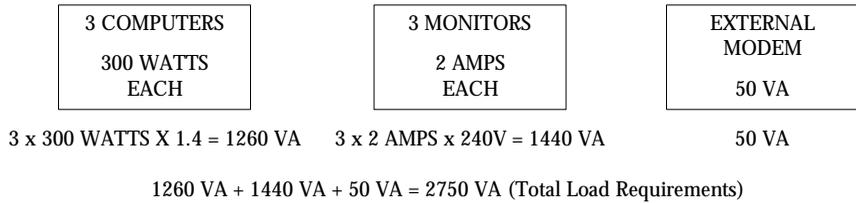

Figure 2. Volt-Amperes Calculation Example
3. Add all of the resultant VA ratings together to obtain the total load requirements of the equipment to be protected (see Figure 2). If the load consists of the power-factor corrected supplies, it is recommended to use total watts for the load requirements.